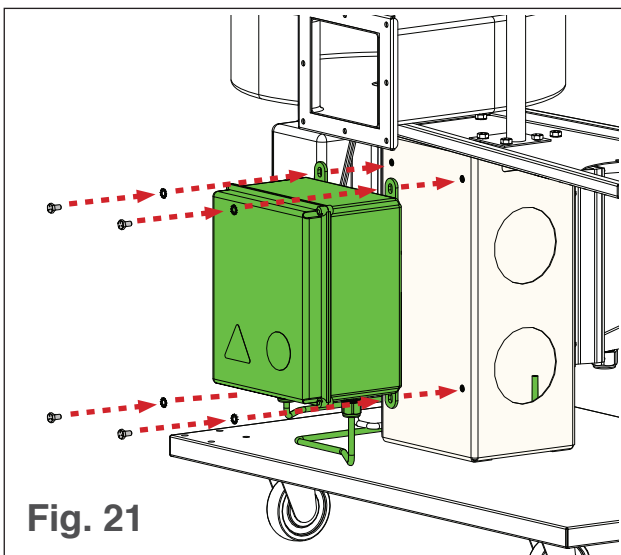

Fig. 21
2. Secure the electrical filter enclosure to the motor support with all four bolts and star lock washers (see Fig. 21).